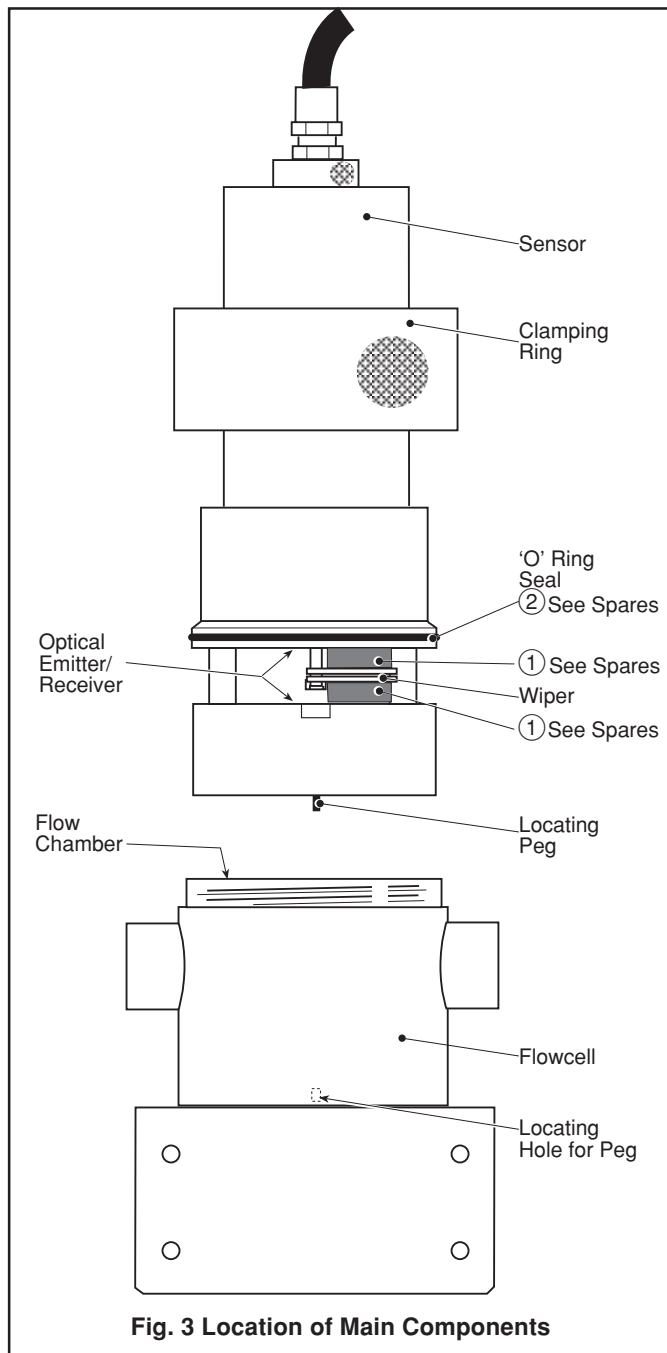

Fig. 3 Location of Main Components
3 Calibration Procedure (Fig. 2 and Fig. 3)
- b) Unscrew the clamping ring and remove the sensor from the flow chamber – see Fig. 3. Hint: Rock the sensor up and down whilst pulling it free of the flowcell.
Caution. Before tightening the clamping ring, ensure that the locating peg on the sensor is engaged in the hole in the base of flow chamber – see Fig. 3. Do this by rotating the sensor in the flow chamber slowly whilst applying a downward pressure to it. When the peg locates the sensor will slide into the flowcell a further 2 or 3mm. Location is confirmed when the sensor cannot be rotated in the chamber.
- f) Tighten the clamping ring firmly – see Fig. 3.
6 Spares (see Fig. 3)